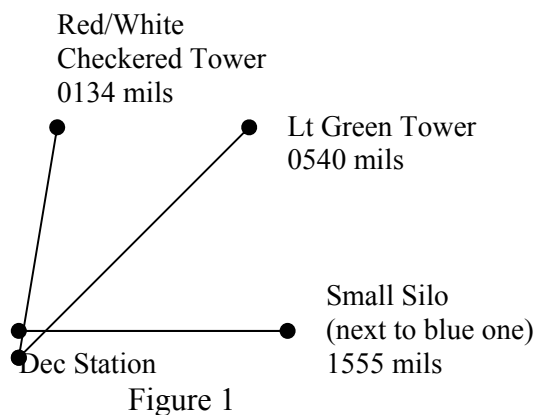

Figure 1
- (4) Minimum cloud bottom altitude must be 5,000 feet MSL. If the cloud bottom altitude is less, firing will not take place until the clouds lift. Mortar projectiles will not enter clouds.
- (5) R-4102 covers all of South Post to include the Oxbow Wildlife Refuge. Aircraft are denied use of the airspace when mortar fire is scheduled.
- (6) Range Control must notify the FAA one hour prior to the first round downrange. A checkfire of one hour or more requires the airspace to be returned to the FAA. The airspace cannot be reactivated that day.
(7) An air observer must be posted to watch for stray aircraft. If aircraft are observed in the airspace, cease firing immediately and notify Range Control. Private civilian aircraft may not heed posted Notice to Airmen (NOTAM).
i. Declination Station: Located on Whittemore Hill (Hill 455) at 444 feet, coordinates BT 8122606525. It is a small brass disc set in concrete. See Figure 1 for declination diagram.
(1) AR 385-63, Policies and Procedures for Firing Ammunition for Training, Target Practice, and Combat.
(2) FM 23-91, Mortar Gunnery.
(3) FM 23-90, 60mm Mortar, Firing Tables 60-P-1, TM 9-1010-223-10.
(4) FM 23-90, 81mm Mortar, Firing Tables 81-A1-3.
(5) FM 23-90, 4.2 inch Mortar, Firing Tables 60-Q-1, TM 9-1015-215-12.
(6) DA PAM 385-64, Ammunition and Explosives Safety Standards.
(7) Devens RFTA Regulation 350-2, Training; Ranges, Training Facilities, and Training Areas.